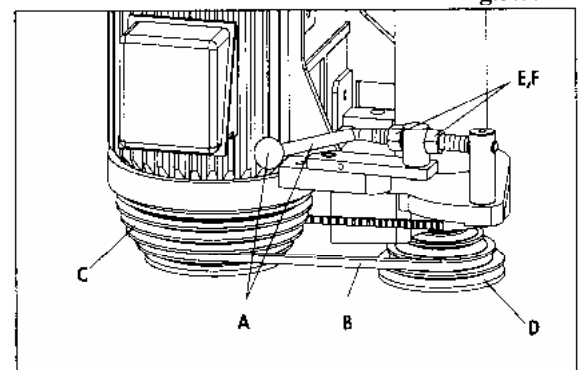

Fig. 3.6
4. After the belt (B) Fig.3.6, is positioned on the desired steps of the motor pulley (C) and spindle pulley (D), move tension lever (A) to the left to apply belt tension as shown.
During the first work phase, the belt will settle and thus a reduction of the tension. Turn the two nuts (E&F) Fig.3.6, to obtain the best tension of the belt.